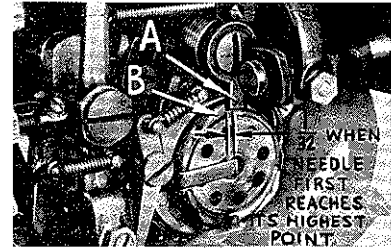

Fig. 8
The bobbin case release is timed correctly if there is a $1/32$ inch clearance between the release lever (A, Fig. 8) and bobbin case (B), when the release lever has traveled its full stroke to the left and the backlash in the hook has been taken up to the left. To adjust the opener, turn handwheel in operating direction until the release lever has traveled its full stroke to the left. Loosen screw (A, Fig. 9) in bobbin case release lever and turn opener to obtain the $1/32$ inch clearance. Tighten screw.